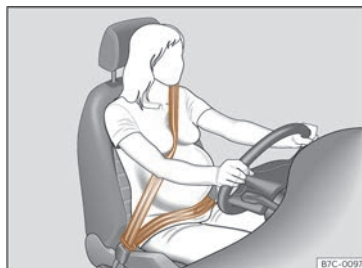

Fig. 26 Position of seat belt during pregnancy.
- Engage the seat backrest of the rear seat in an upright position >>> **Fig. 26.**
In the case of **pregnant women**, the seat belt should pass uniformly over the chest and as low as possible through the pelvic area with the strap flat so it does not press down on the abdomen; in addition, it must be used throughout the entire pregnancy >>> **Fig. 26**.
- In the case of pregnant women, the abdominal strap of the seat belt should pass as low as possible across the pelvic area, resting flat and “surrounding” the abdomen >>> Fig. 26.